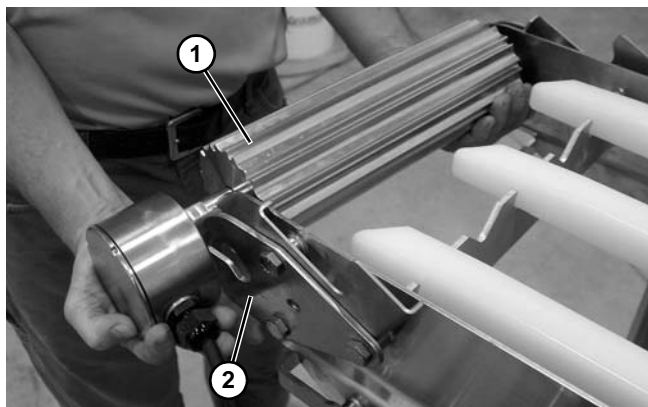

Figure 63
4. Rotate and remove the drive spindle assembly (**Figure 63, item 1**) off the drive tail blocks (**Figure 63, item 2**).